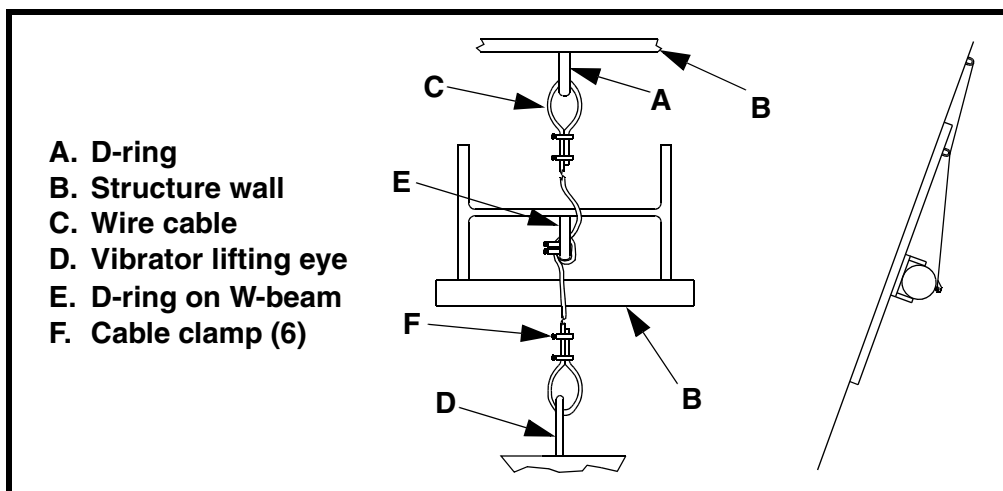

Figure 4. Installing Restraining Cable
- a. Weld D-ring (A, Figure 4) onto structure wall (B) above vibrator.
- b. Loop 1/4-in. (6 mm) wire cable (C) through vibrator lifting eye (D) and D-ring on structure wall.
- c. If using a Martin® W-beam Mount, also loop cable through D-ring on W-beam (E) as shown. Take up slack so cable is taut.
- d. Apply thread-sealing compound to nuts on cable clamps (F). Install six cable clamps (two on each end and two on loop around D-ring on W-beam) to secure cable to vibrator eye and D-rings. Torque nuts on cable clamps according to drawing 32401-XX supplied with Mount Kit for Electric Vibrators.